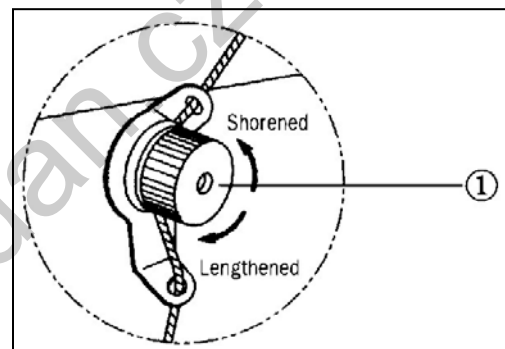

Fig.16
Turn the auxiliary thread tension adjusting nut (1) in clockwise direction to make the remaining thread length on the needle after trimming shorter and in counterclockwise direction to make it longer, as shown in Fig.16. The appropriate length of the upper thread remaining after trimming is 30mm - 40mm.